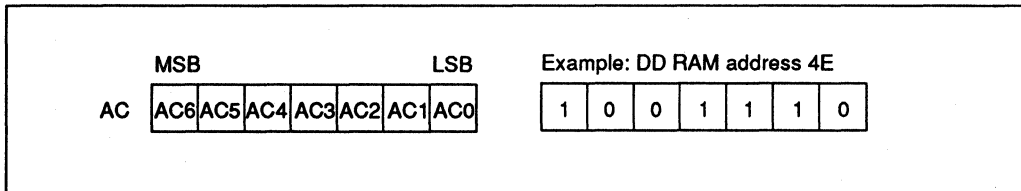

Figure 1 DD RAM Address
The DD RAM address (Add) is set in the address counter (AC) as a hexadecimal number, as shown in figure 1.